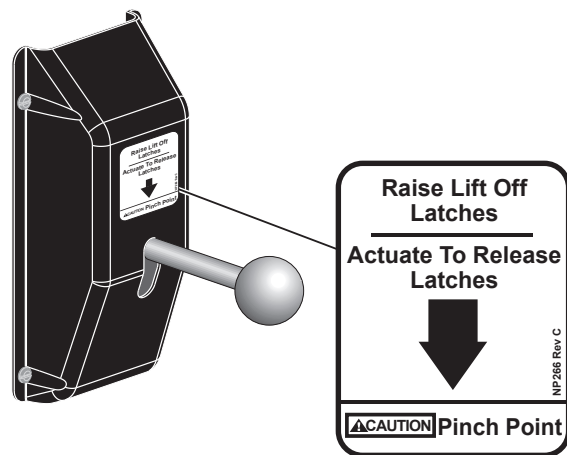

Fig. 30
- A) Check to make sure the latch will properly engage and disengage. Slowly release the latch handle. A 1/8" gap between the top of the latch dog and the column is allowable, Fig. 30.